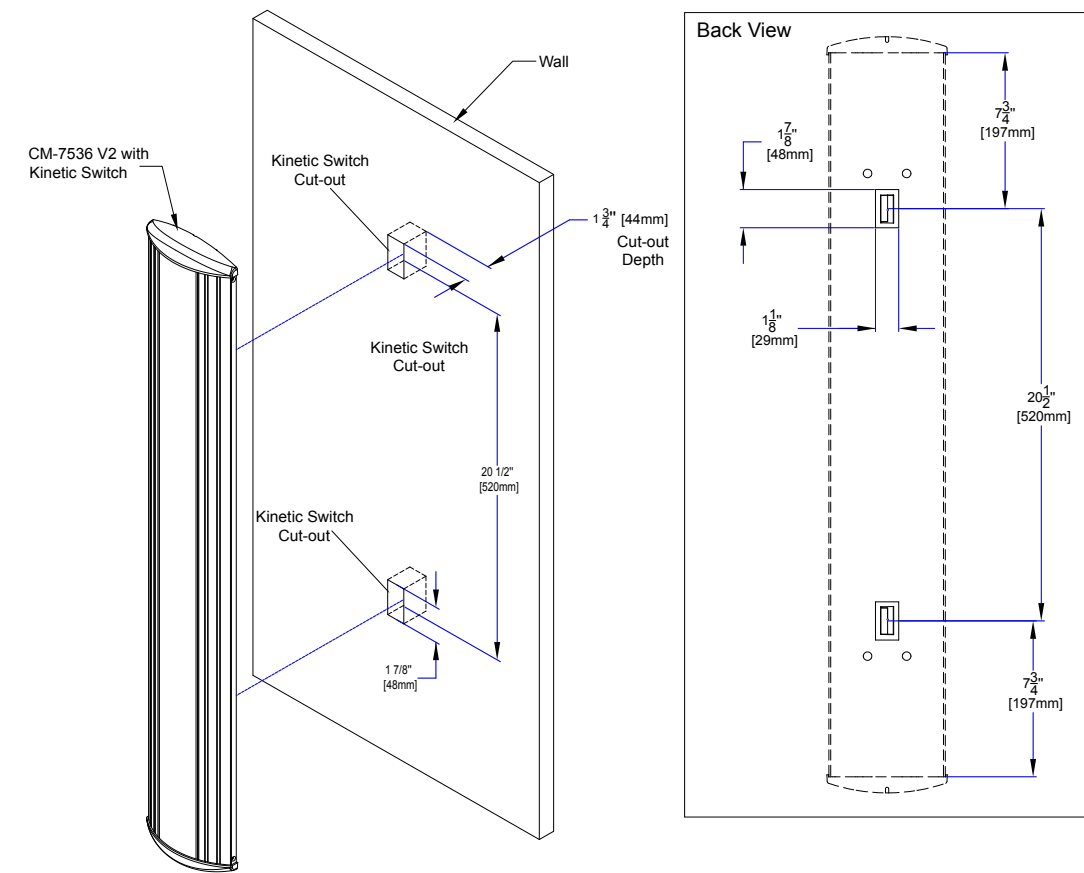

Figure 4.5 Kinetic Wall Mounting
**c. If using Kinetic RF:** The CM-7536K uses 2 Kinetic RF switches installed near the top and the bottom of the actuator. When pairing this switch with a Kinetic receiver, you must pair both the top and the bottom switches. The pairing of Camden Kinetic transmitters is detailed in the CM-RX90v2 installation manual. (Figure 4.5)